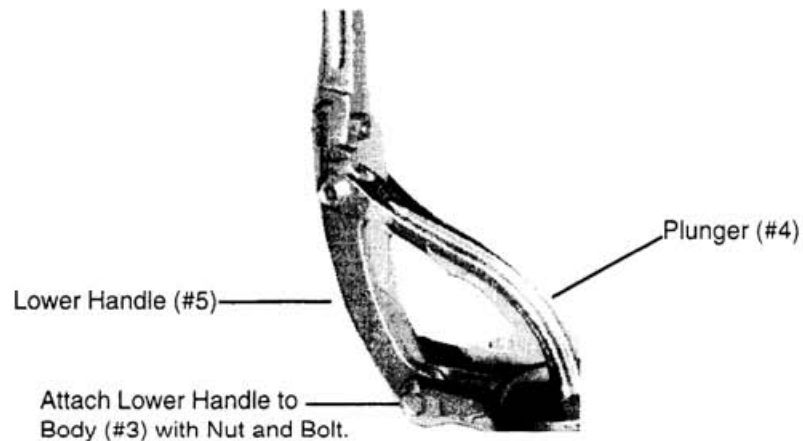

Figure 2
Step 4) Attach the Lower Handle (#5) to the Body with Nut and Bolt-see figure 2.